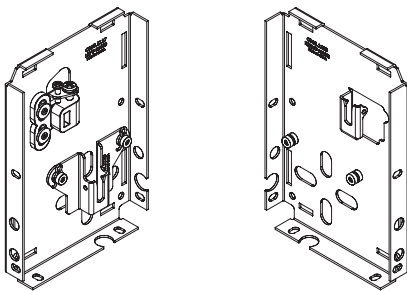

Figure 2
- ③ Drill small starter hole (if necessary) in mounting surface.
- ④ Mount endcaps using appropriate fasteners for surface (see Fig. 2 for types). **The installer is responsible for selecting mounting hardware appropriate for site conditions.**